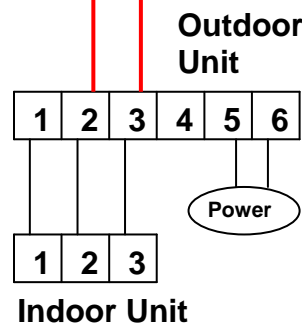

Fig. 3
2. Short-circuit between the terminals 2 and 3 on the outdoor Unit terminal plate. (Fig. 3)